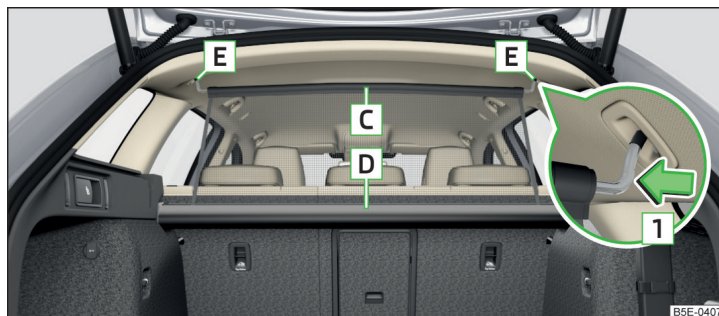

Fig. 118 Net partition behind the front seats in the pulled-out state
- Be convinced that the crossbar of the net partition is firmly seated in the recesses **E** » Fig. 118 on page 112.
- Pull out the net partition at the upper crossbar **C** from the housing **D** » Fig. 118.
- Press on the crossbar and remove it from the receptacles **E**, first on one side, then on the other side » Fig. 118.